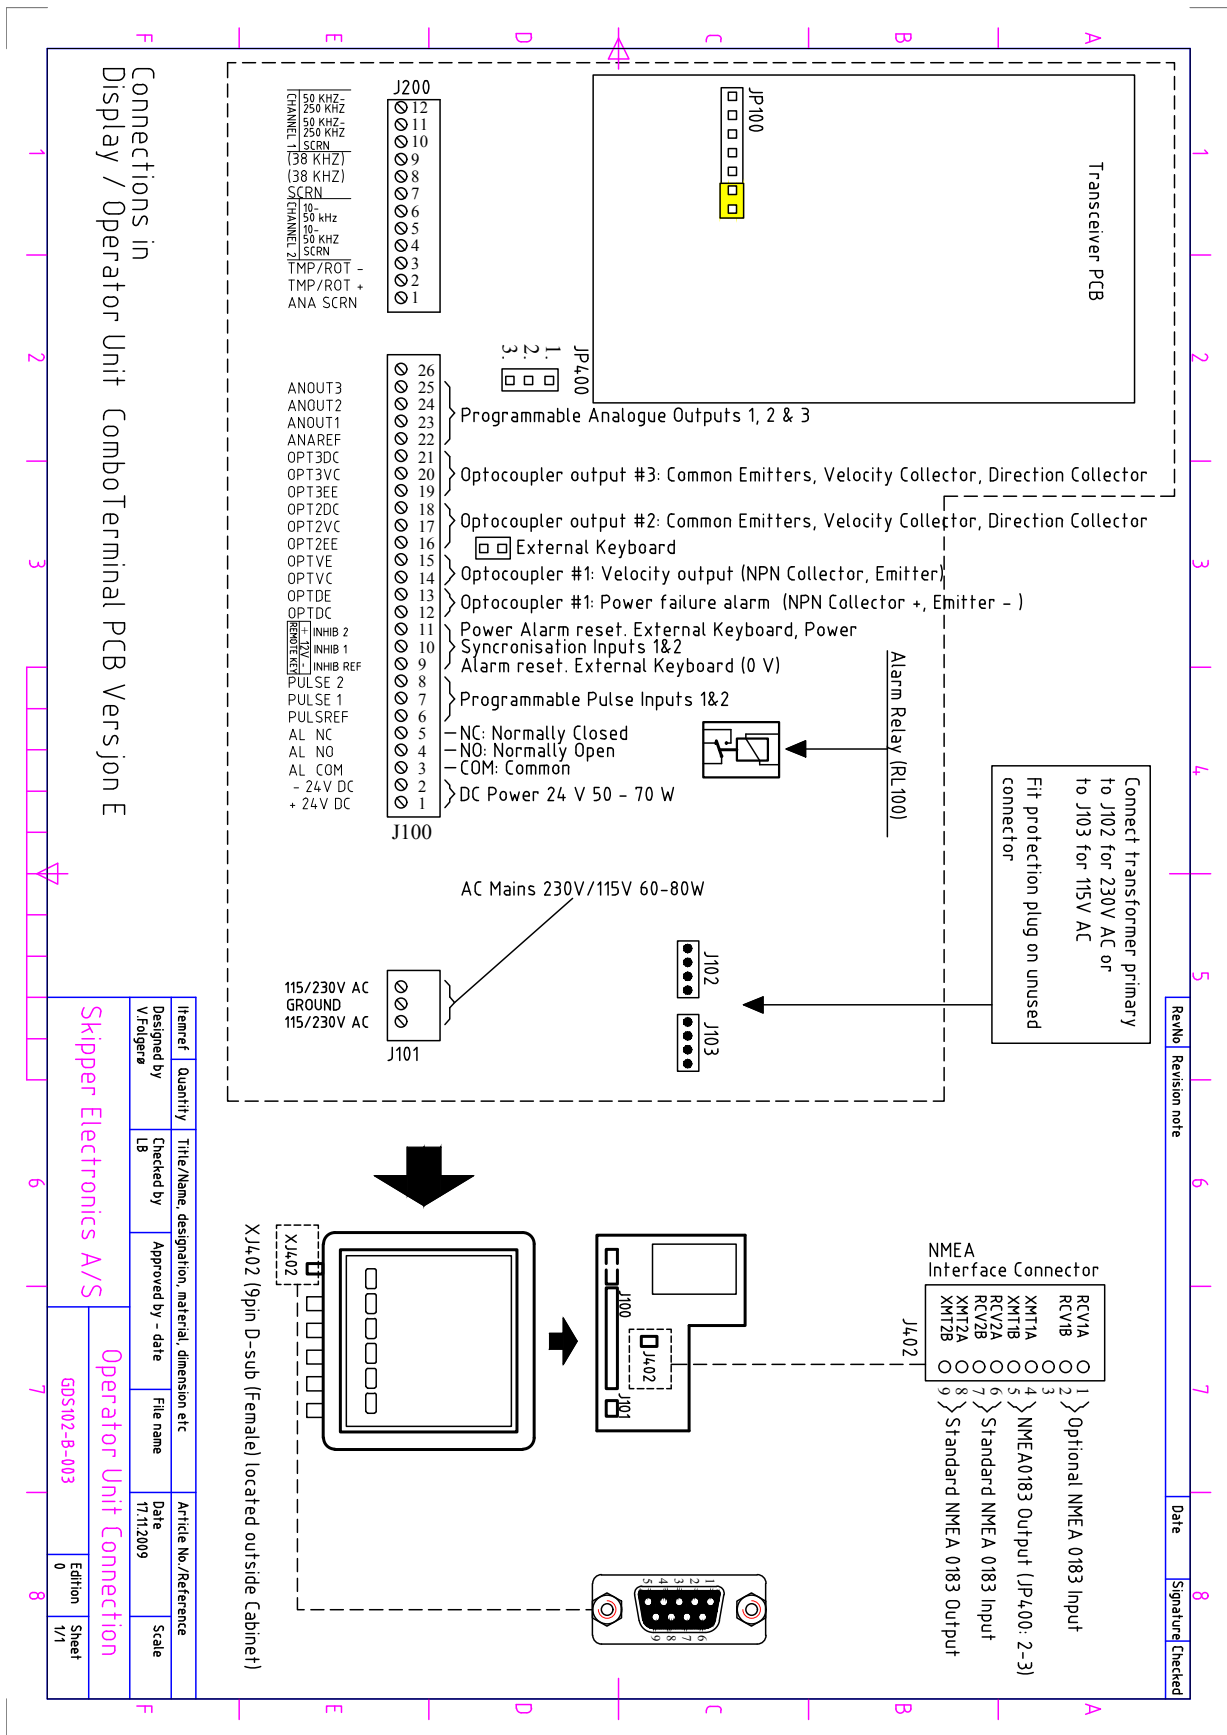

Fig. 3.8. Terminal board connections
**Note:** The factory setting of jumper JP400 on the terminal board (underneath the dual transceiver PCB, see fig. 3.8) is 1 to 2, providing two individually controlled NMEA outputs. If the jumper is moved in position 2 to 3, both outputs are controlled (baud rate and scope of transmitted sentences) by the settings of NMEA PORT 2 on screen 10. If the jumper is removed, only one NMEA output is available (NMEA PORT 2). In the last case, the settings for output of COM PORT 1 have no meaning. Both NMEA inputs are always available and individually programmable (baud rate) regardless of the setting of JP400. Ref. section Start-up and system adaptation, for a complete list of transmitted and received messages.
An alarm relay is provided for interconnection to external alarm systems. This relay is normally energized, and is released by alarm conditions (shallow or deep alarm). Ref. fig. 3.8, 3.10 and 3.11 for connection details.
GDS102 is equipped with 2 analogue outputs to supply analogue repeaters or other equipment with analogue inputs. The signals are galvanically connected to the GDS102. Standard range is 0 - 10 V or 4 - 20 mA. Ref. fig. 3.8, 3.9 and 3.10 for more details.
Two optocoupler outputs provide a trigger and bottom pulse output. These outputs can be used to connect a repeater e.g. SKIPPER IR201, or to synchronize other hydroacoustic equipment to avoid interference. Ref. fig. 3.8, 3.9 and 3.10 for output details.
This option lets the GDS102 being controlled remotely in continuous/edge/level/single ping modes. If installed, these options are accessible on screen 3. Ref. fig. 3.8, 3.9 and 3.10 for more details.